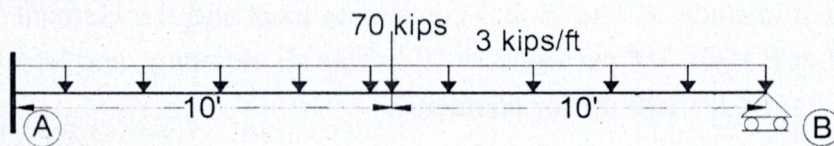

Fig. 1.1
- (b) Find the reactions of the following fig. 1.1, using the force method. Draw the SFD and BMD 7